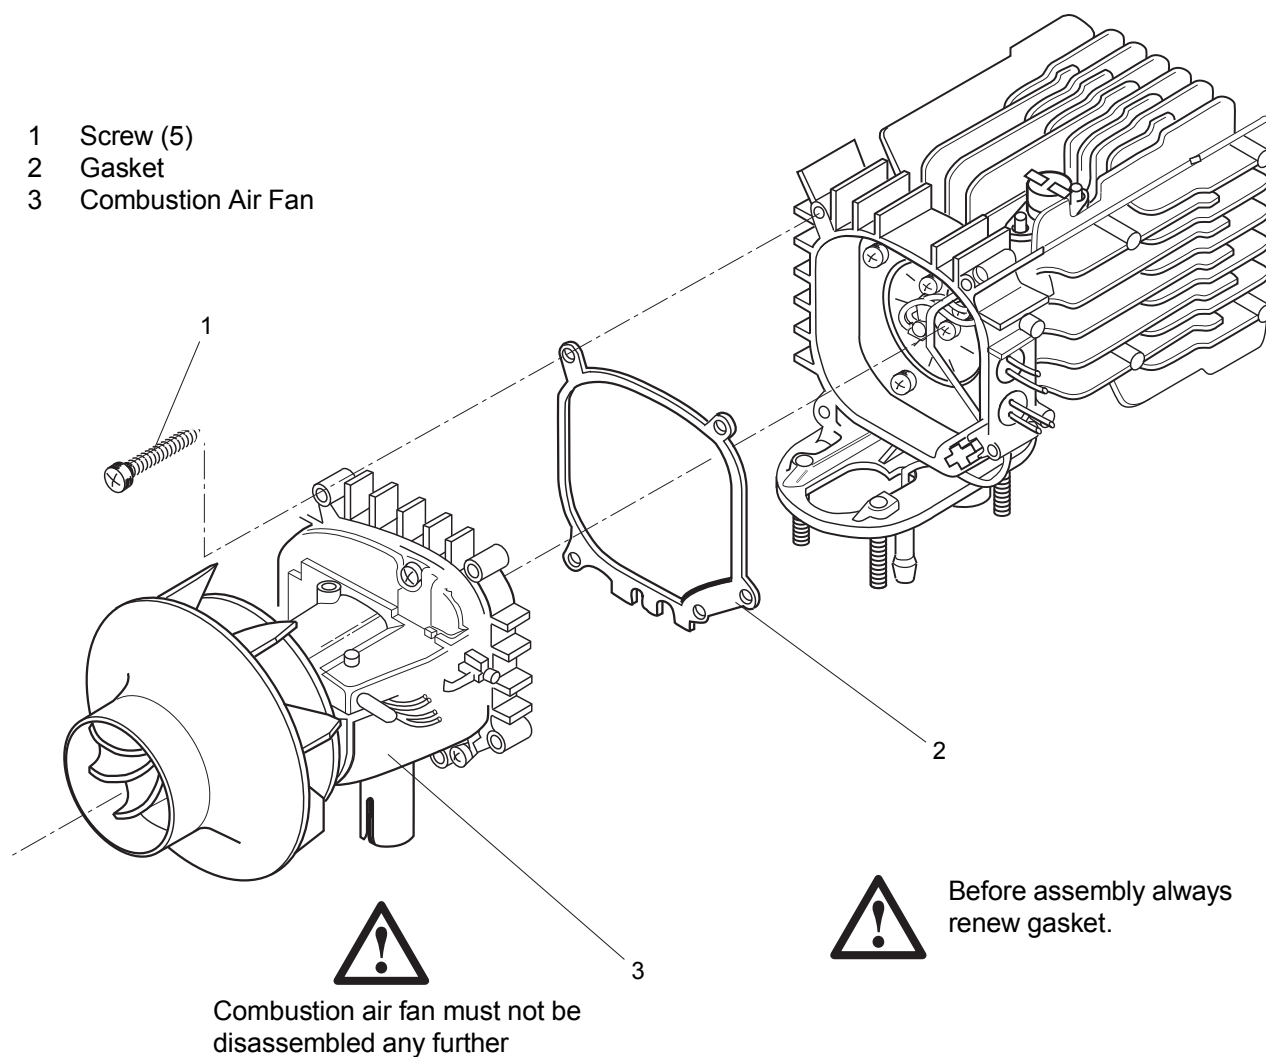

Fig. 904 Replacement of Combustion Air Fan (Assembly)
6. Remove screws (1, Fig. 904).
7. Withdraw combustion air fan (3) and remove gasket (2).
2. Place new gasket (2, Fig. 904) onto flange of combustion air fan (3).
3. Place combustion air fan into assembly position and mount using screws (1). Torque screws (1) to 6 Nm.